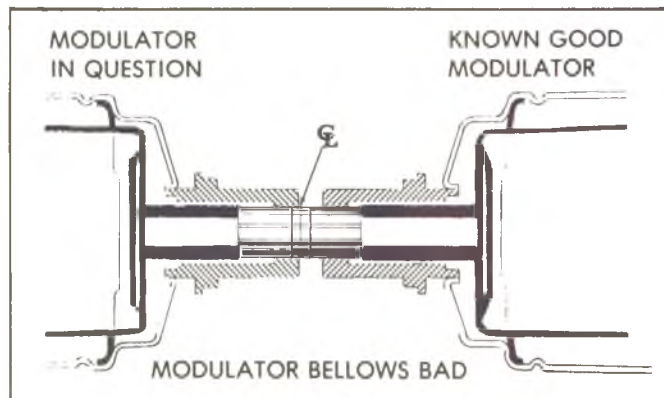

Fig. 37T—Modulator Bellows - Bad
- b. Install the modulator in question on the opposite end of the gauge. (Fig. 37T).